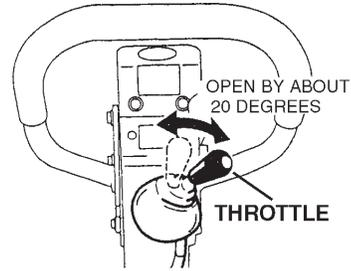

Figure 9. Throttle Lever (Start)
2. Move the throttle lever to the START position by opening it to about 20 degrees (Figure 9).
2. Move the throttle lever to the **START** position by opening it to about 20 degrees (Figure 9).
- Return the throttle lever to the **START** position (Figure 9). Allow the machine to cool down for 2 to 3 minutes.